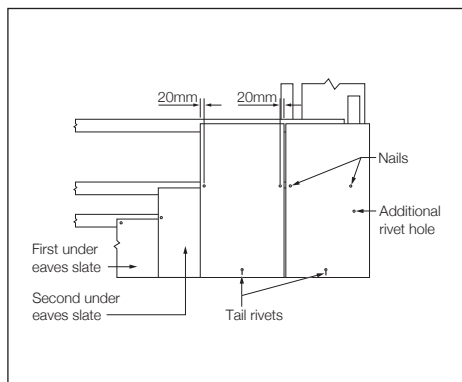

Fig. 10
- 4 first course of full size slates (Fig. 10). All these slates need to be drilled with 3 no. 4mm holes, 2 for shoulder nailing to the batten 20mm in from each edge and 1 drilled along the centre line of the slate and 25mm up from the bottom edge to accept a copper disc rivet fitted between the perps of the course below. At the verge, a fourth 4mm hole is required to allow for the copper disc rivet for the next course.